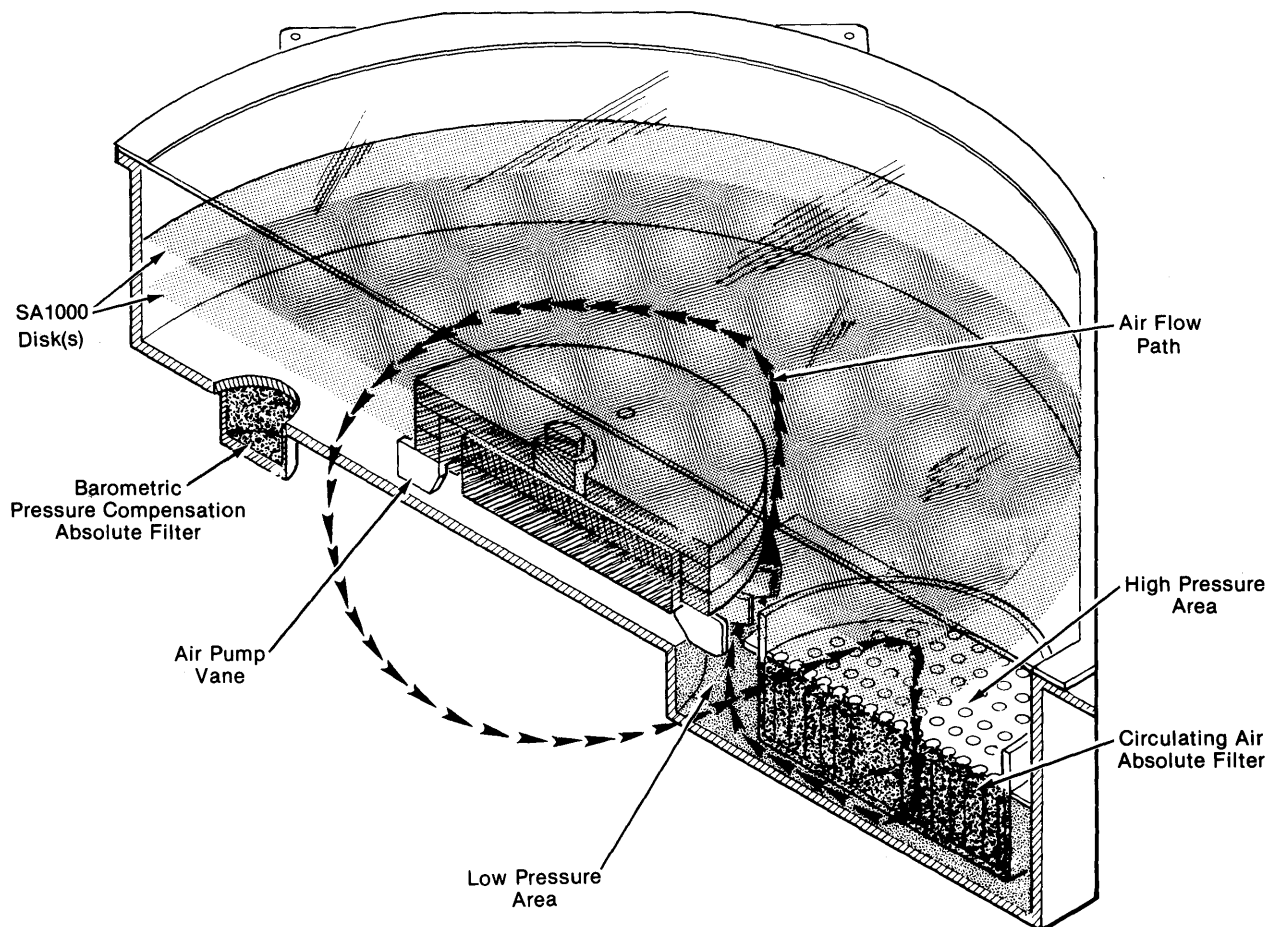

Figure 1 Air Filtration System
2.4 Air Filtration System (Figure 1)